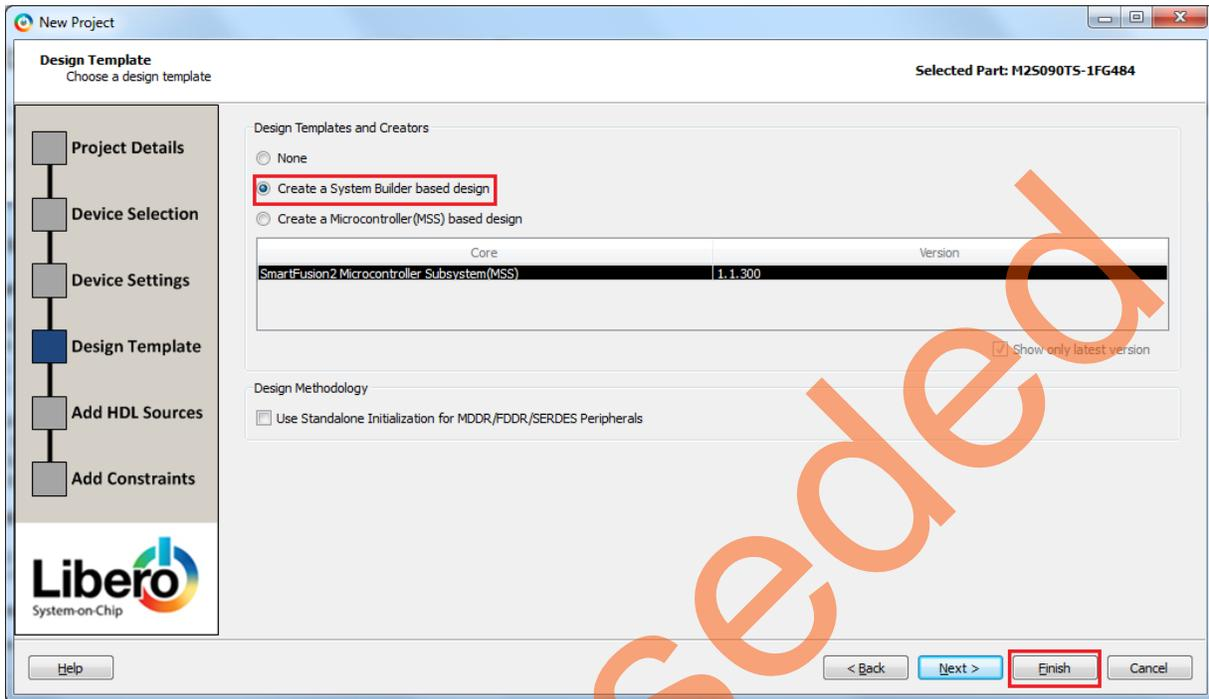

Figure 5 • Design Template Window
- Click **Next**. This opens **Design Template** page as shown in Figure 5, Under Design Templates and Creators, select **Create a System Builder based design**.